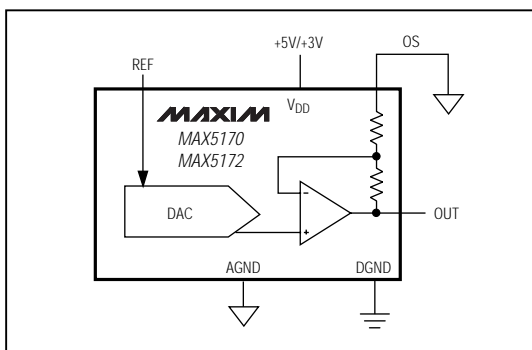
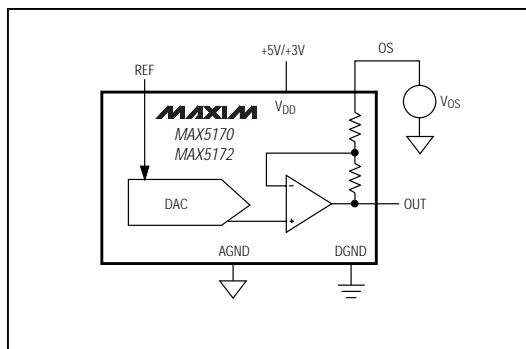

Figure 6. Unipolar Output Circuit (Rail-to-Rail)
Figure 7. Setting OS for Output Offset
Figure 6 shows the MAX5170/MAX5172 configured for unipolar, rail-to-rail operation with a gain of +1.638V/V. Table 2 lists the codes for unipolar output voltages. The maximum output voltage is limited to  $V_{DD}$ . Use the OS pin to introduce an offset voltage as shown in Figure 7 and described in the *Offset and Buffer Configurations* section.
**Table 2. Unipolar Code Table (Circuit of Figure 6)**
The simple circuit of Figure 7 illustrates how to introduce an offset to the output voltage. The amount of offset introduced by a voltage at the OS pin is shown in the following equation: